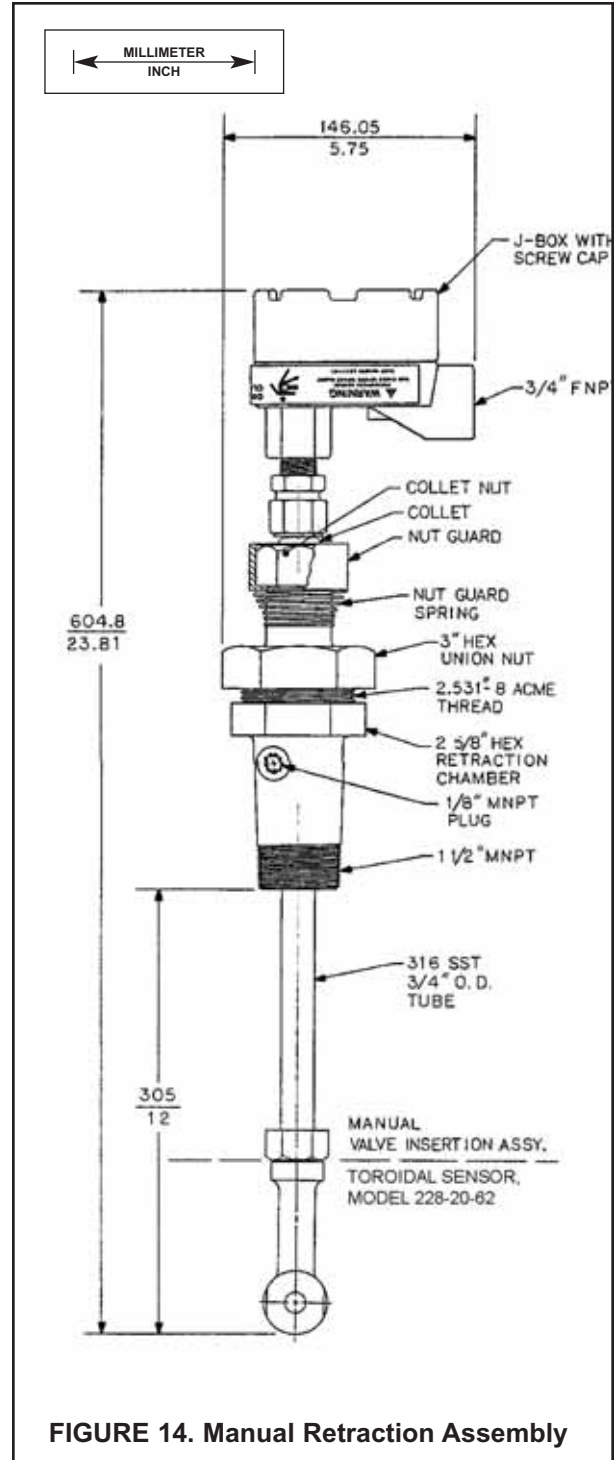

FIGURE 14. Manual Retraction Assembly
1. Loosen the collet nut and retract the sensor tube into the retraction chamber. See Figure 14.